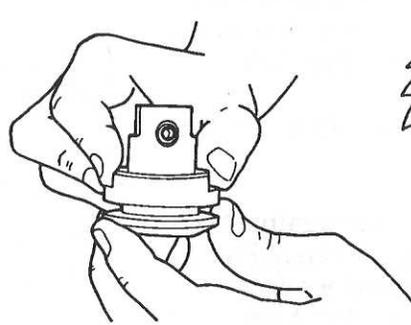

Fig. B-59a
a. Remove the arbor nut by turning it clockwise, as seen in Fig. B-59a. Hold the arbor with the threaded part pointing to the left.